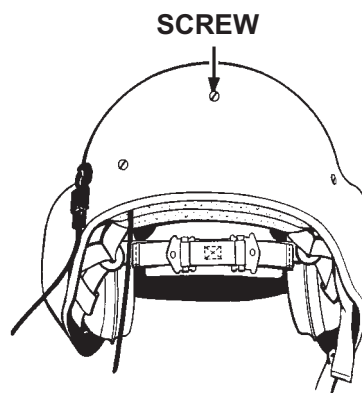

Figure 4-14. Rear Retention Screw
3. Refer to Figure 4-14, and remove the pan-head screw, spring washer, and post fastening the retention assembly to the center rear of the helmet shell. Retain the screw, washer, and post for reassembly.